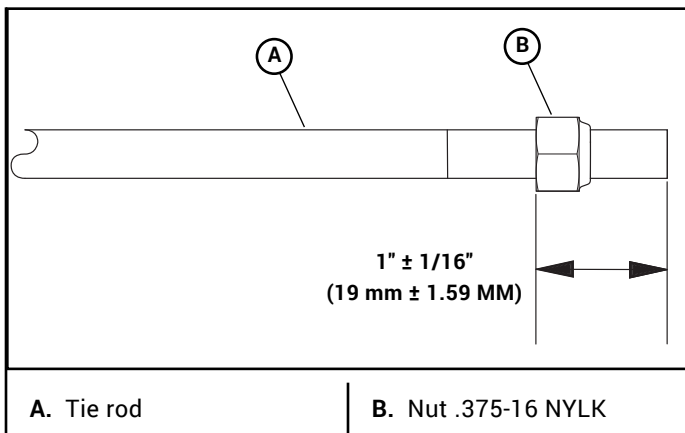

Figure 3-7
10. Thread a .375-16 nylon locking nut onto each of the tie rods to the dimension shown in Figure 3-3 & Figure 3-7.